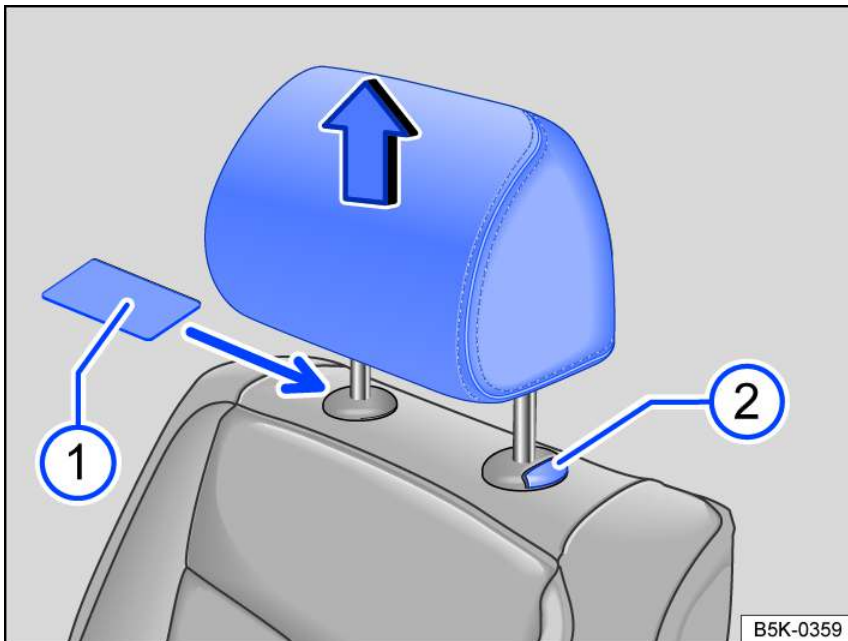

Fig. 68 Front head restraints: removing.
3. To unlock, insert a flat object, e.g. a plastic card fig. 68 between the backrest cover and the head restraint guide pin cap.
4. Pull the head restraint all the way out while pressing the button fig. 68 fully.
3. Press the button fig. 68 fully and slide the head restraint down as far as it will go.